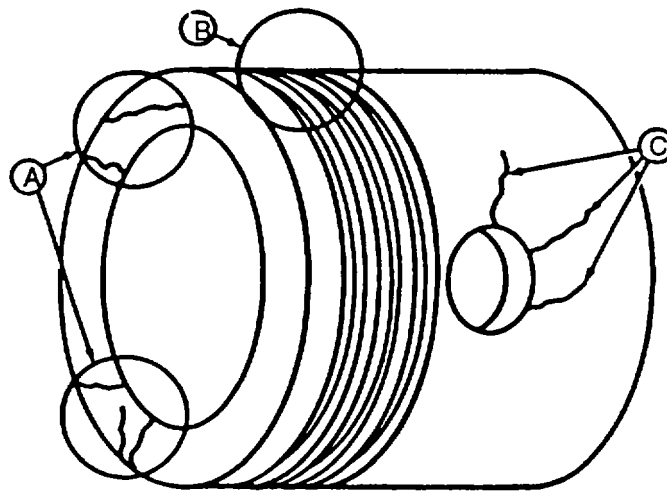

FIGURE 3-147. Piston Inspection
- i. Look for fine cracks in piston head, refer to FIGURE 3-147.